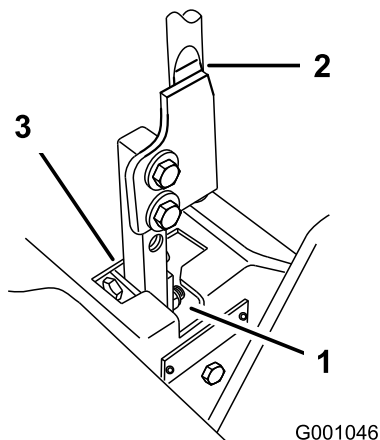

Figure 72
5. Move the lever to the neutral position but **not locked** (Figure 72).
6. Pull the lever back until the clevis pin (on arm below pivot shaft) contacts the end of the slot (just beginning to put pressure on the spring) (Figure 72).
7. Check where the control lever is relative to notch in console (Figure 72). It should be centered allowing lever to pivot outward to the neutral lock position.